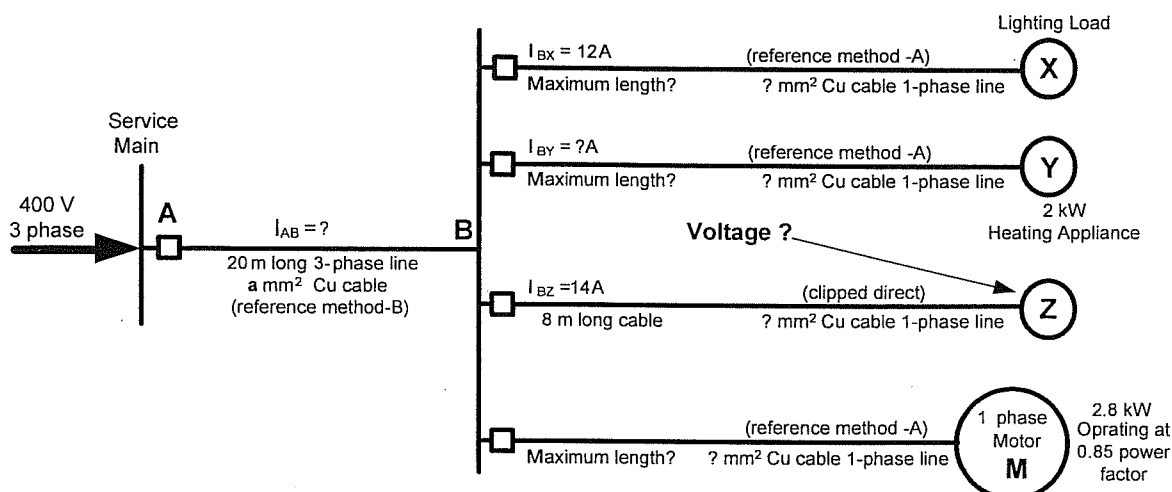

Figure Q4
4. Conceptual single line diagram of a certain installation is as shown in Figure Q4.
A 3-phase service main of “a” mm² and a length of 20 meter supplies a symmetrical 3 sets of identical X, Y, Z & 1-phase motor loads connected to 3-phases emanating from bus-bar B (only a single set of loads connected to one phase is shown in figure Q4 for clarity and simplicity). Permissible voltage drop allowed from A to each destination of load is 2.5%.